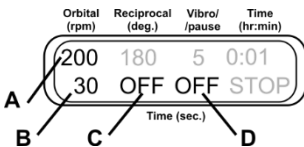

Figure 4.
6.9.1 **Orbital motion.** Set the speed (fig. 4/A, 20–250 rpm) and time (fig. 4/B, 1–250 s) of Orbital motion. Turn off Reciprocal motion (fig. 4/C) by setting time of the cycle to zero (OFF). Turn off Vibro motion (fig. 4/D) by setting time of the cycle to zero (OFF).